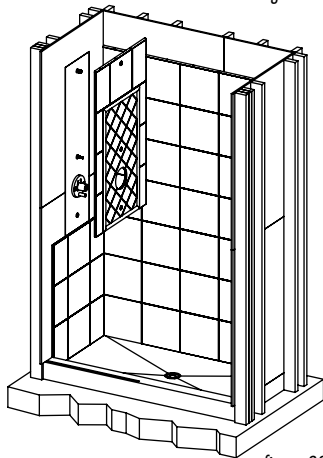

figure 22
12. Inspect, making sure all top panels are square and straight. Also make sure faucet holes are positioned properly (fig. 22).